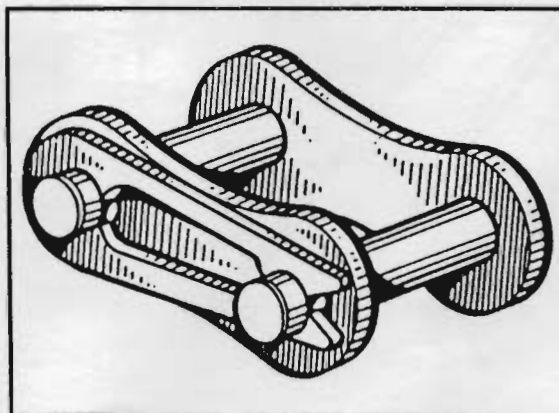

Figure 2-2
7. Insert the connecting link pins through the rolls being careful to enter the loose middle plates and the side plate as the link is inserted (Figure 2-2).